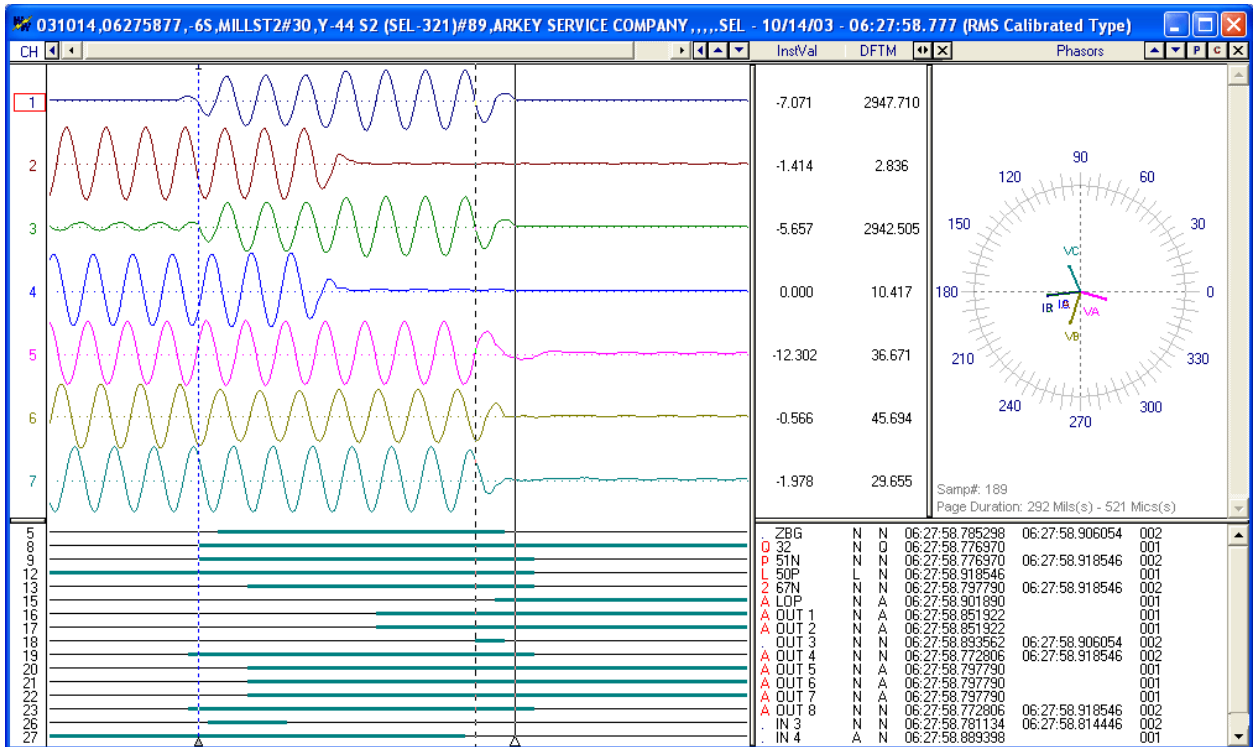

Figure 1.20 Append Waveform Files: Discard Common Times
- Discard Common Times: Any common times found in the marked files will be deleted from the older file. Refer to Figure 1.20.